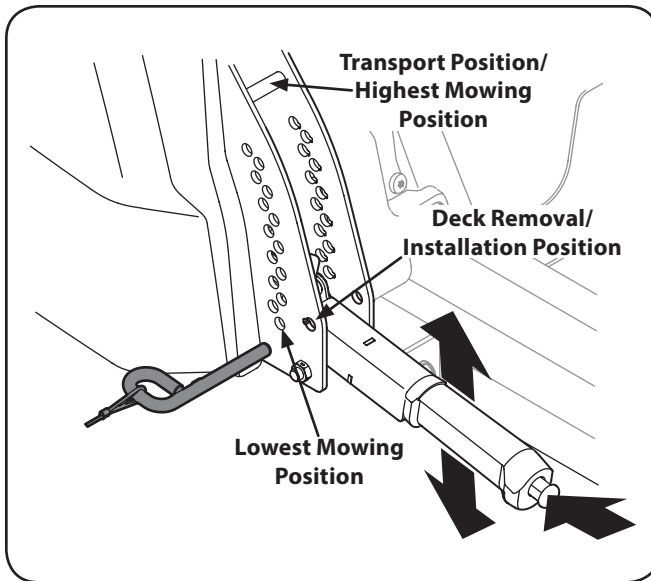

Figure 7-3
- a. Using the deck lift handle, raise the deck to the position that provides the most horizontal run of the belt between the deck idler pulleys and the PTO pulley on the bottom of the engine. See Figure 7-3.
- d. Lower the deck into the deck removal/installation position  using the deck lift handle. See Figure 7-3.
- e. Lower the deck into the deck removal/installation position  using the deck lift handle. See Figure 7-3.
1. Place the deck lift handle in the highest mowing position See Figure 7-3.